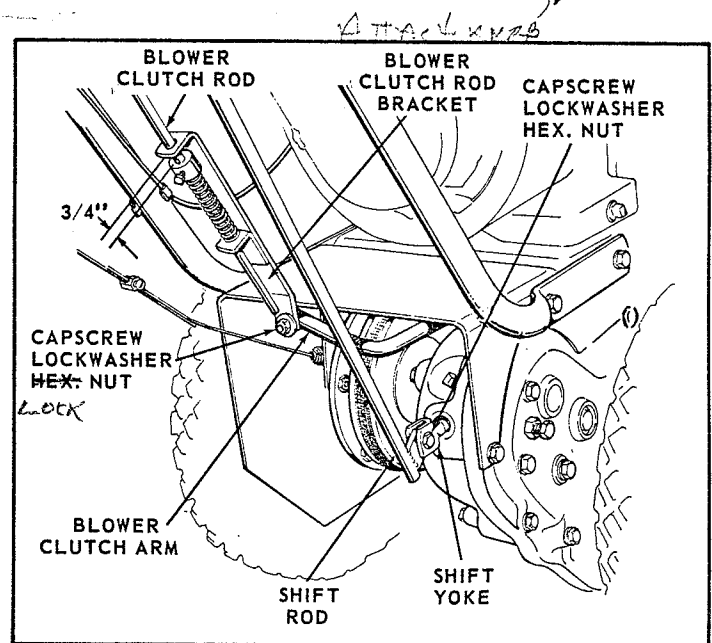

FIGURE 5
5. Fasten the spout extension #4, Fig 5 to the spout assembly using the two 5/16"-18 x 3/4" long carriage bolts, 3/8" special hexagon lockwashers and 3/8" plain washers and wing nuts. Adjust as desired.
8. Attach the clutch rod assembly to the clutch auger handle using the 3/32" x 3/4" cotter pin. Attach the lower end of the clutch rod assembly to the clutch auger rod assembly using the 1/4" x 1" hardened capscrew and the 1/4" locknut. Tighten until there is no side play but that rod is free to pivot. See Fig. 5.
9. Remove the back cover by removing the (three) self tapping screws. Insert the wire extension thru the spring on the pivot assembly. See Fig. 5. Install wire extension thru upper left corner of back cover. Replace back cover. Insert spring extension thru bottom set of holes in clutch grip.
12. Position discharge spout directly forward. Position control tube so that the cord clamp faces away from the side of the spout. Place the tube so it rests on the gas tank. Provide one (1) coil on top and one (1) coil on bottom of the tube. Position the free ends of the cord around the spout and clamp securely into position after removing all slack from the cord. The end of the cord closest to operator passes under the tube, the end away from operator passes over the top of tube. Position the control tube so that it fits against the side of the spout adjusting rod support and fasten using the rod guide with liner and one 5/16" x 18 x 1-1/2" long hex capscrew and 5/16"-18 locknut.
Belt Tension for the Rotor Drive is regulated by the position of the set collar on the Rotor Clutch Rod. Normally a clearance of 3/4" between the set collar and top bracket will properly tension this belt. Check this adjustment when the rotor clutch is engaged. Refer to Fig. 5.